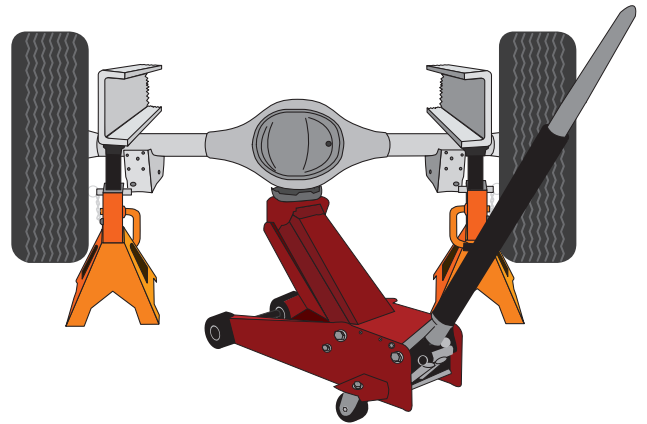

Fig. 2
1. Lift the vehicle and support the frame with safety stands. Drop the axle down low enough to later set the air spring assemblies into position between frame and axle (Fig. 2).